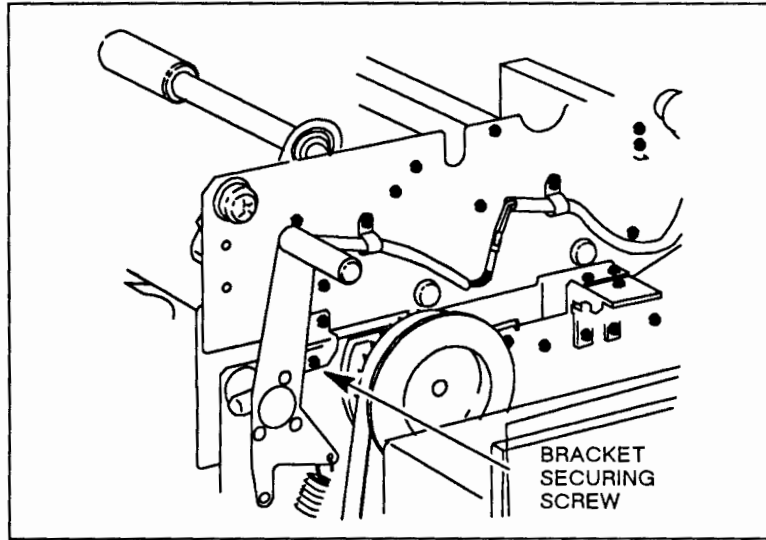

Figure 2-2. Upper Frame and S-shaped Bracket (Right Side)
- d. Locate the S-shaped brackets at either end of the upper frame, which secure the upper frame during shipping. See Figure 2-2.